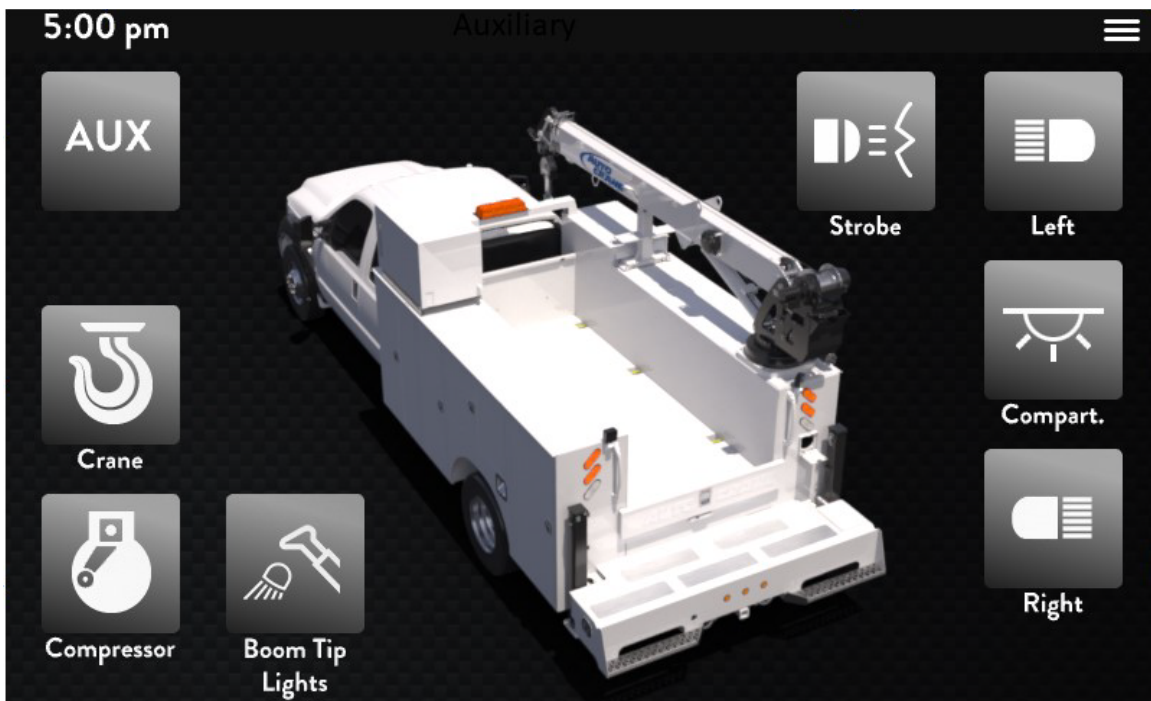

Figure 39 - Main Screen View
1. On the main screen, select the three bars found in the upper right corner. This will bring up the Settings menu. Reference Figure 39.